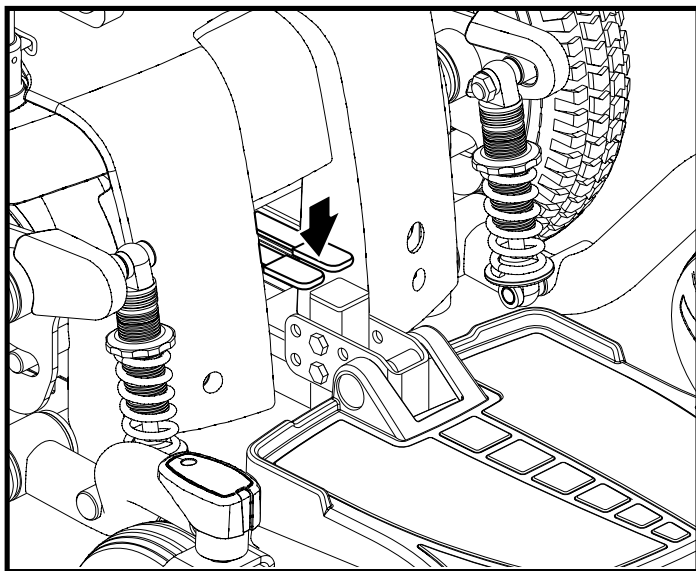

Figure 8. Drive Mode (Drive Engaged)
2. Push the two levers downward to engage the drive motors (drive mode). See figure 8.